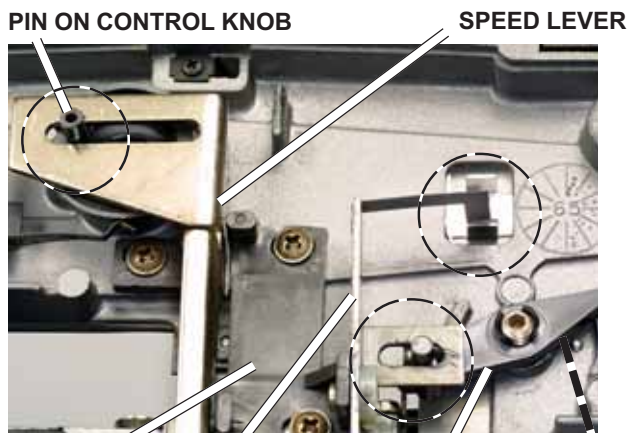

FIG. D100 Mechanism installed in case, points of alignment.
3. Check all points of alignment between the case parts and the mechanism, shown by dashed circles in Fig. D100:
- (1) the slot at the top of the speed lever over the pin on the control knob, Fig. D100
- (2) the slot in the film-selector slide over the post on the cam lever, Fig. D100. Also note the position of the spring tab on top of the film-selector slide in Fig. D100.